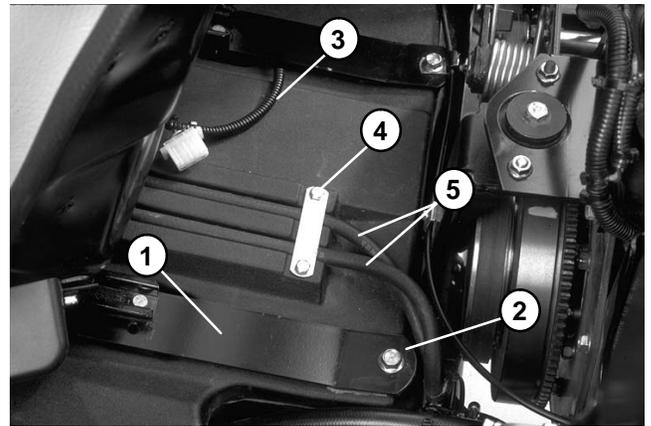

Figure 6
3. Remove seat and seat support straps from the frame. Note location of spacers under front of seat support straps. Disconnect seat switch from the electrical harness (Fig. 6).